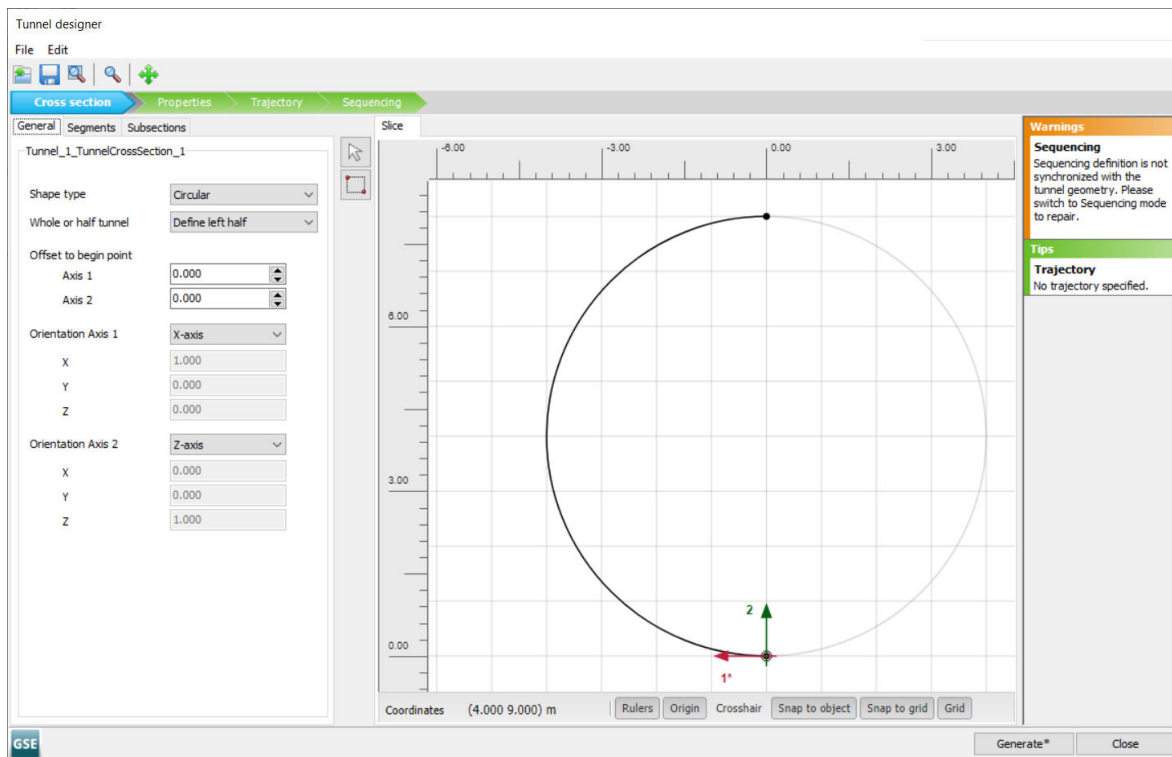

Figure 62: General tabsheet of the Tunnel designer
6. The left half of the tunnel is generated in this example. Select the **Define left half** option in the drop-down menu for the *Whole or half tunnel*. A screenshot of the **General** tabsheet after the proper assignment is given in Figure 62 (on page 89).